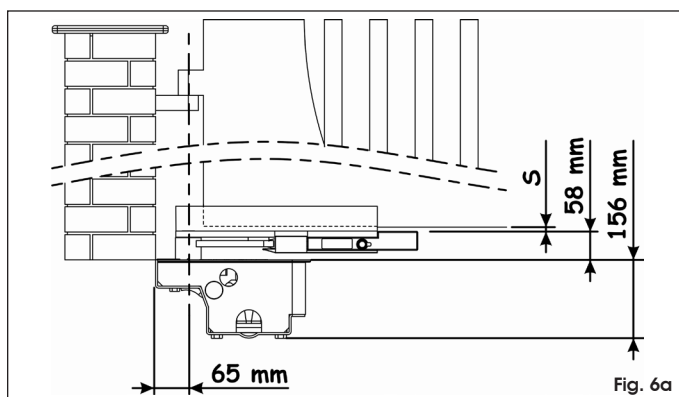

Fig. 6a
- min. clearance between bottom edge of gate and ground as in fig. 6a (where 's' = thickness of guide bracket);
- Place the foundation box in the hole, respecting the dimensions given in Fig. 6a - 6b - 6c. The center of the pivot on the foundation box must be perfectly aligned with the leaf's axis of swing (Fig. 6a - 6b - 6c).